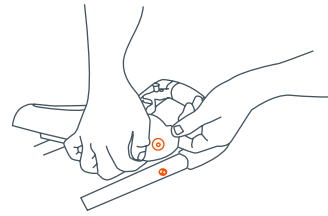

Fig. 7
- Align the fittings on the ends of the parent tray with the fittings on the outsides of the handle. Pull outward on the opposite end while pushing down on the tray until locked onto the stroller handle. Please be careful not to pinch your fingers when installing the parent tray (Fig. 7).